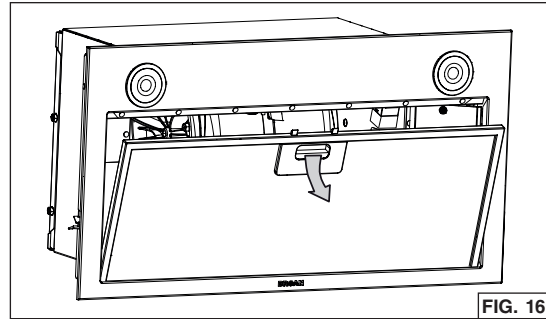

FIG. 16
2. Remove the grease filter by pushing down on latch tab and tilting the filter downward (FIG. 16). Set aside the filter.